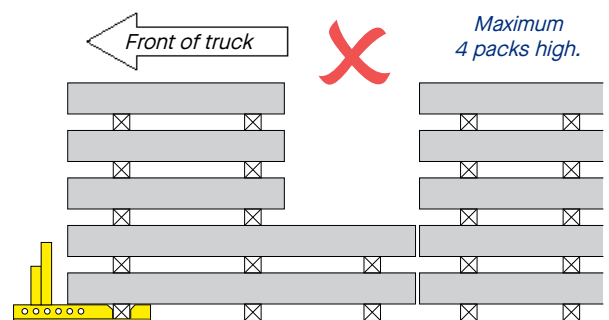

Figure 8c. Do not use SheetStop devices to block multiple stacks.
- For headboards, other packs may be blocked against the first row to allow five high stacks. The bottom two packs of each stack used for blocking must be equal length. This method is not suitable for *SheetStop* devices. See figures 8c, 8d and 8e.